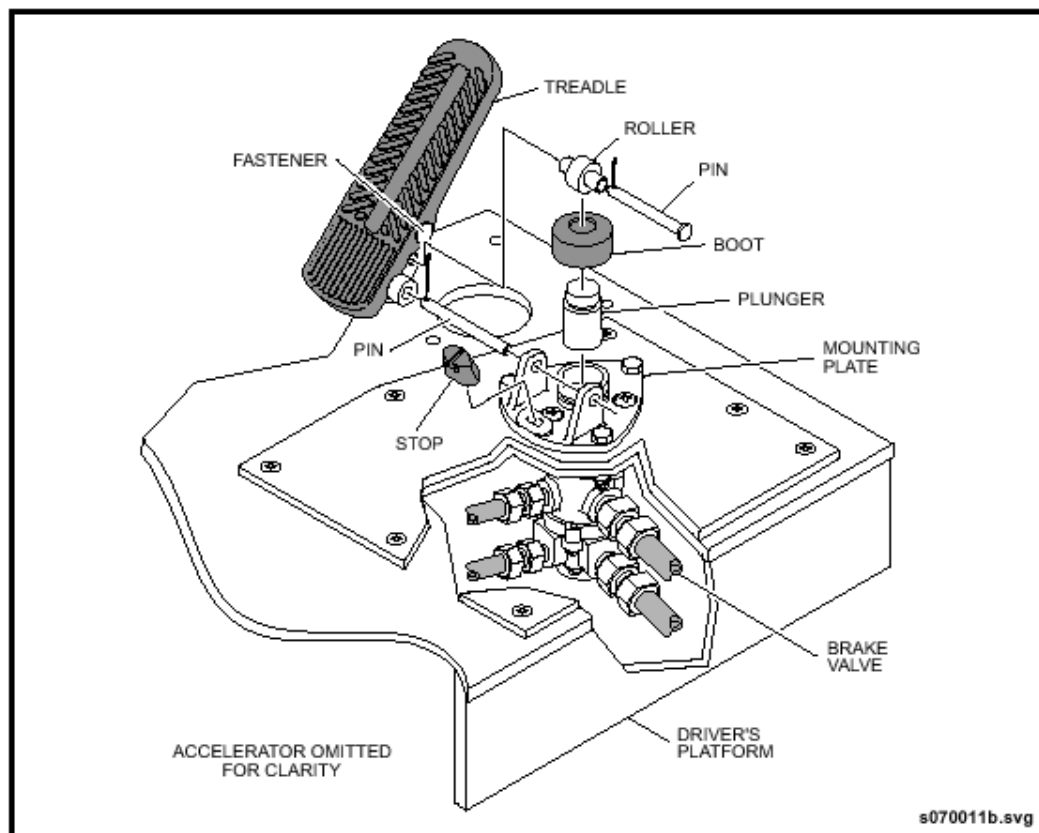

Fig. PM-28: Brake Valve Inspection
- ❑ Perform maintenance on the brake treadle assembly and brake valve every 24,000 miles (38,600 km), 900 operating hours or three months, whichever occurs first. Remove any accumulated contamination, such as dirt and gravel, from the heel of the treadle, the plunger, the plunger boot and the mounting plate. See "Fig. PM-28: Brake Valve Inspection" on page 59.